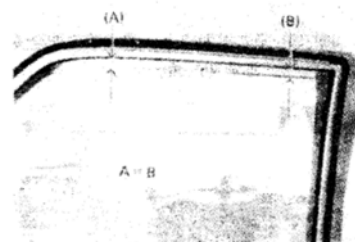
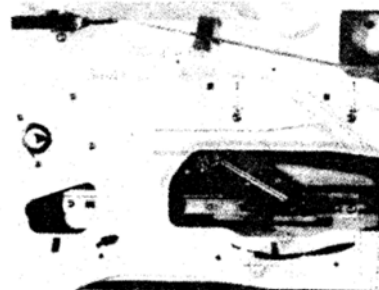

Fig. 4.1-9
Fig. 4.1-10 Adjusting fixed slide rail
3) If it is difficult to wind up and down front door glass, the reason may be that the glass leans to door case. If so, it is necessary to adjust the fixed slide rail of glass regulator, t make size A equal to size B, see fig. 4.1-9, Fig. 4.1-10.